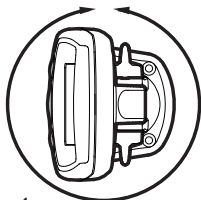

Figure 1
- Your PiranhaMAX™ may have one of two different types of mounting bases, either a tilt mounting base or a tilt and swivel mounting base. The mounting area should allow sufficient room for the unit to pivot freely, to swivel if capable, and for easy removal and installation (Figures 1 and 2).